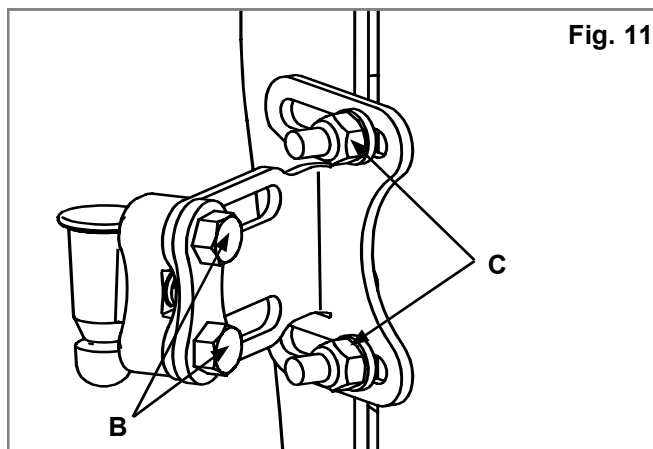

Fig. 11
(Fig.11, 12, 13).
2. Depth/Angle Adjustment (Figs. 11, 12, 13 & 14).